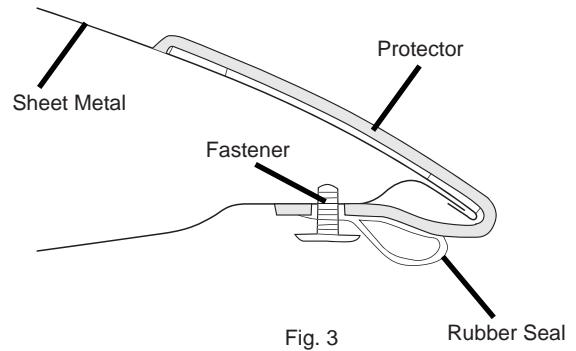

Fig. 3
- Using your fingers, insert the supplied Push Retainer through the rubber seal, protector, and hood (Fig. 3).
The leading edge tape liner must be removed from the back of the part (trailing edge) due to the mechanical fasteners installed under the hood, (reference Fig. 3).